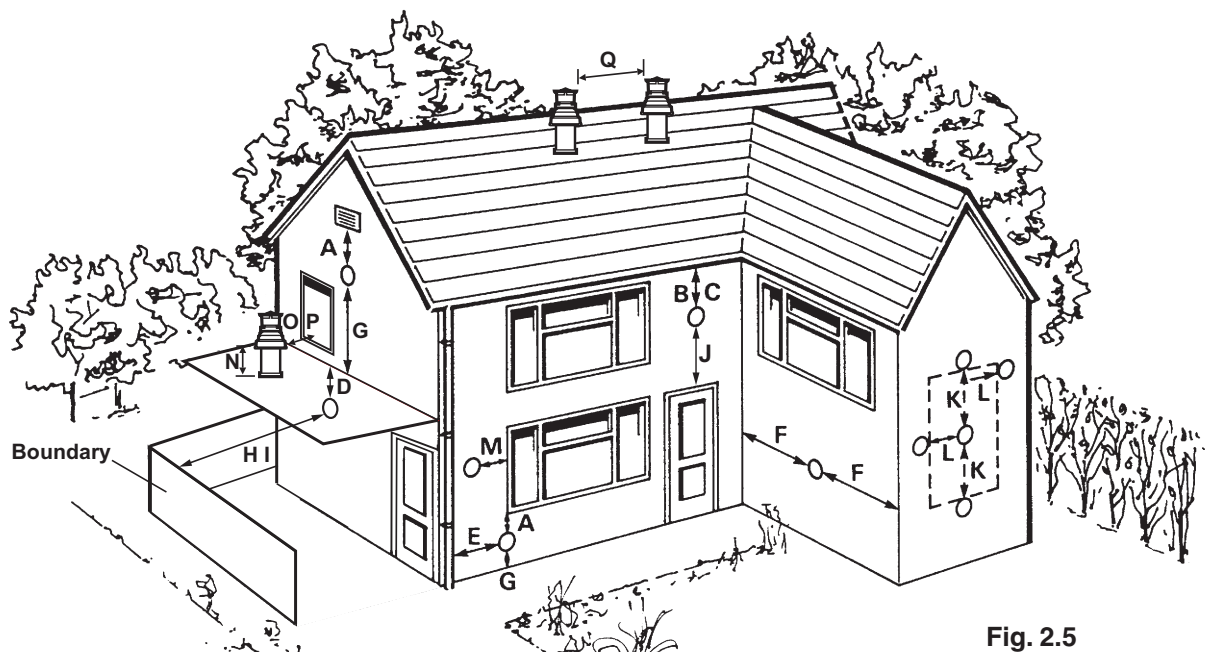

Fig. 2.5
3.5 FLUE TERMINAL LOCATION - Figs. 2.5 and 2.6